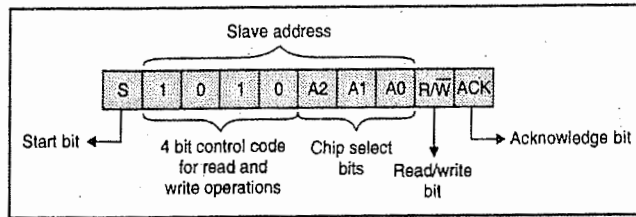

Fig. 14.12.4(a) : Control byte format
- As shown in Fig. 14.12.4(a) the control byte has a 4 bit control code. For 24xx128 EEPROM this code is 1010 for the read and write operations.